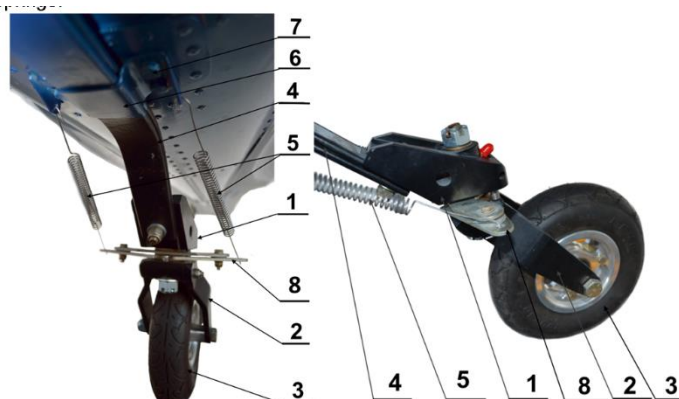

Fig. 8-6
Follow Fig. 6-12 and Fig. 8-6 at removal.
- (d) Unhook the centering coil springs (5) from the tail wing (8) Fig. 8-6 and then also take the springs down the stirrup (6) .
- (e) Use wrench size 7/16 in to release and remove 4 bolts (7), which attach the leg stirrup (6) to the fuselage tail section bottom.
- (f) Remove the leg stirrup (6) from the fuselage together with the tail wheel leg, fork and wheel.
Follow Fig. 6-12 and Fig. 8-6 at installation.